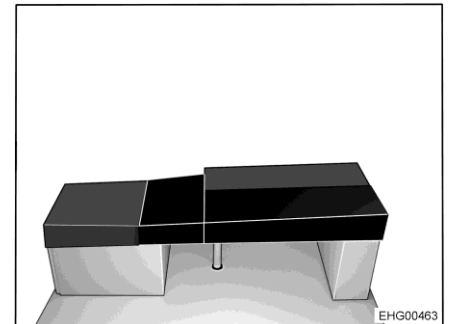

Fig. 165 After conversion
- Place rectangular additional cushion on the table (see Fig. 165).
- Place angled additional cushion on the L-shaped bed widening (see Fig. 165).